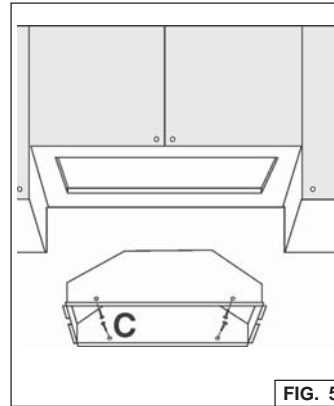
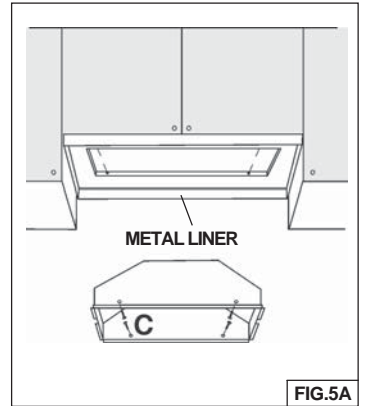

FIG. 5
FIG.5A
4. **NOTE:** For installations where the Power Pack is less than 30" above cook top, it is recommended that the Power Pack be mounted into a metal liner or non-combustible material. This will allow easier cleaning and provide protection to the cabinetry (Fig.5A).
6. Insert the hood in the cabinet (Fig. 5) or metal liner (Fig. 5A) and secure with the (4) "C" mounting sheet metal screws. (Fig. 5 - wood bottom installation; recommended thickness 1/2"-3/4"). (For alternate mounting, use machine screws with washers and nuts. This alternate mounting method needs to be done prior to installation of metal liner).